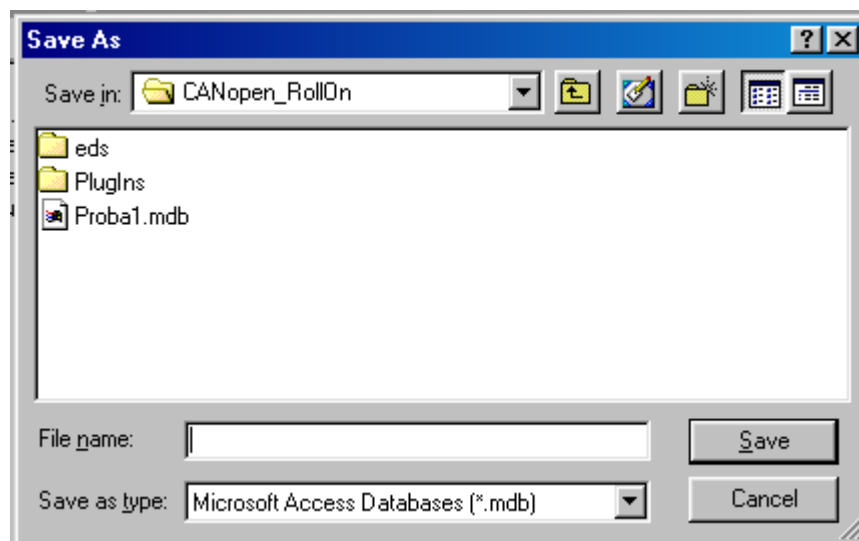

Fig. 4.3
- Click on New Project... to open the Dialog box shown in Fig. 4.3.